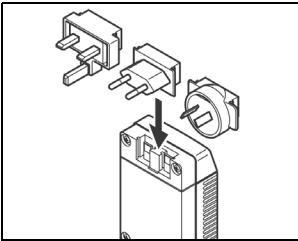

Fig. 3 SNT-121A Adapter.
3. Slide a different AC line plug adapter into the slot (see Fig. 3).